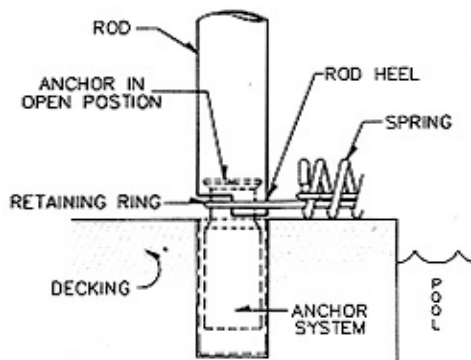

Figure 2
- a. Insert Installation Rod over anchor bolt with heel of rod facing cover (see Figure 2 below)